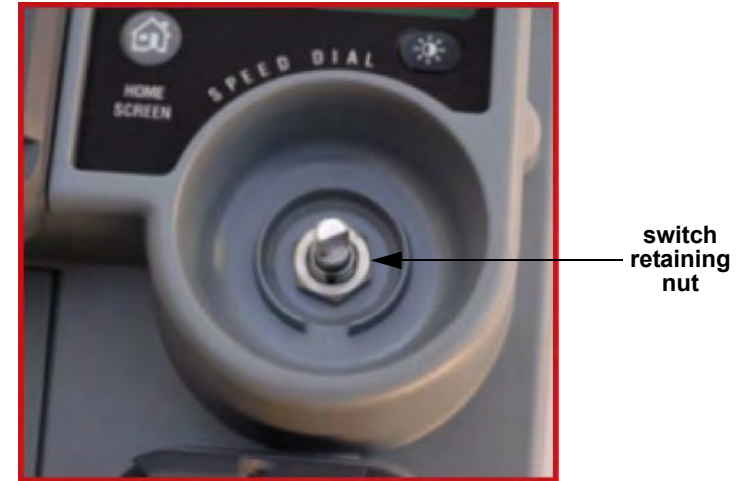

Figure 8.27—Nut and lock washer
3. Push the knob (3207030-000) onto the speed dial assembly shaft from the outside of the front case (see Figure 8.27 on p. 219).